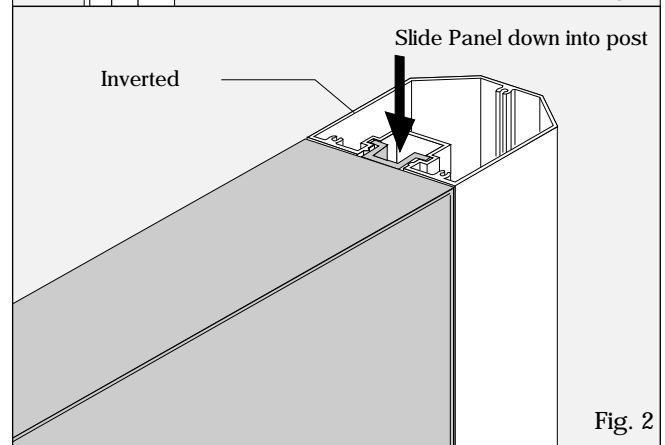

Fig. 2
2. Align sign panel assembly (upside down) with post pockets and slide together. (Fig. 2)